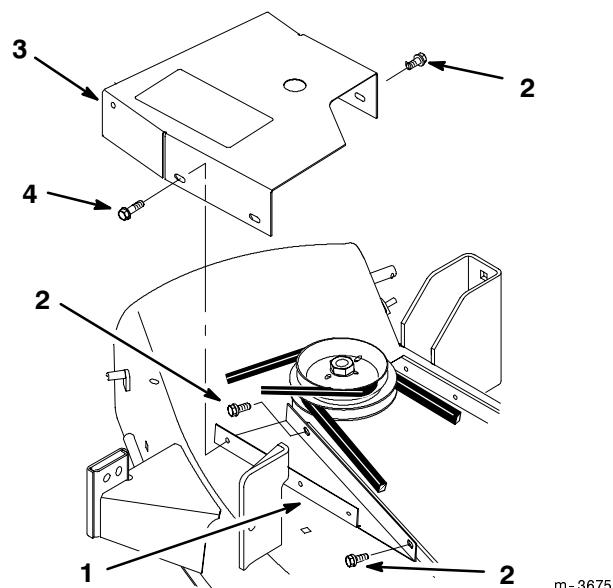

Figure 25
2. Remove the mower belt cover and belt cover bracket from the right side pulley (Fig 25).